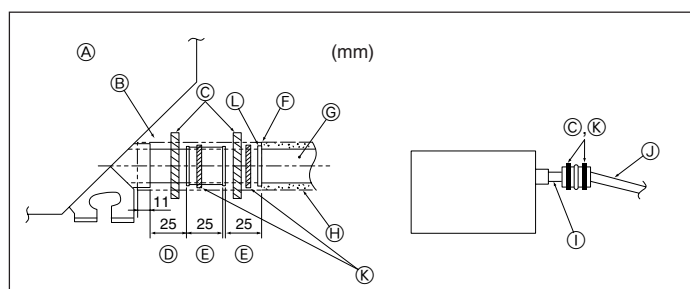

Fig. 3-5
- ① O. D. ø32 PVC TUBE
- ② Make it as large as possible
- ③ Indoor unit
- ④ Make the piping size large for grouped piping.
- ⑤ Downward slope (1/100 or more)
- ⑥ O. D. ø38 PVC TUBE for grouped piping.
- ⑦ (9 mm or more insulation)
- ⑧ Up to 85 cm
1. Connect the drain socket (supplied with the unit) to the drain port. (Fig. 3-5) (Affix the tube using PVC adhesive then secure it with a band.)